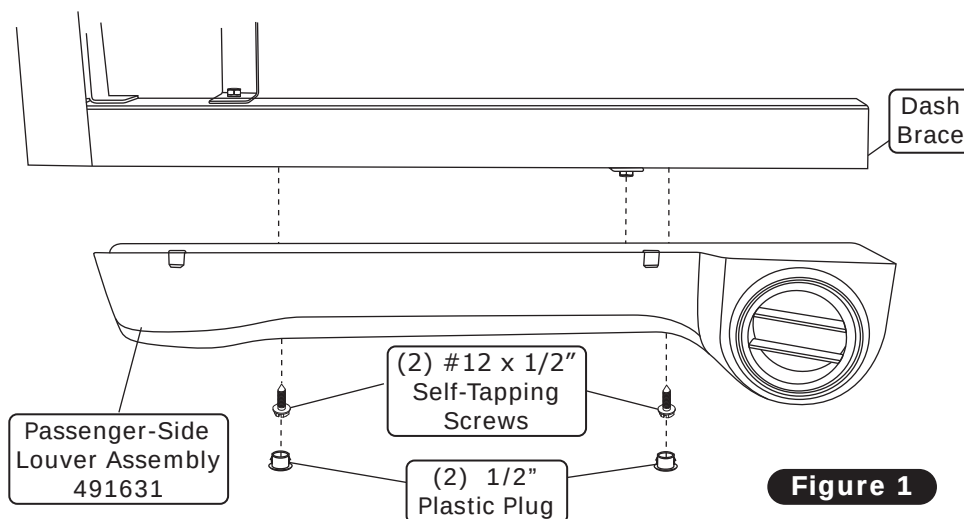

Figure 1
3. Using (2) #12 x 1/2" self-tapping screws, secure the under dash louver to the dash brace (See Figure 1, below).
4. Install (2) 1/2" plastic plugs in the base of the louver assembly.